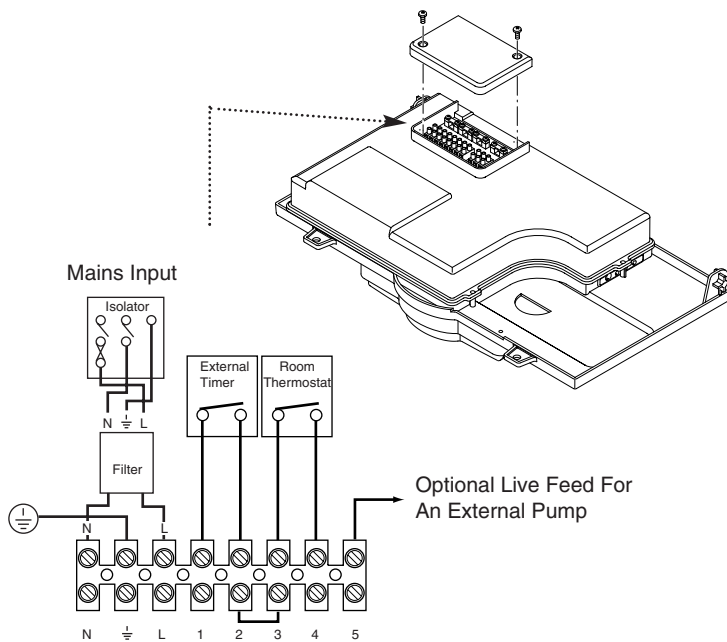

Fig. 30
1. To fit a 2-wire thermostat, remove link and wire the thermostat switch between positions 3 & 4 (Figs. 30 or 31a). A cable clamp is provided for incoming cables.